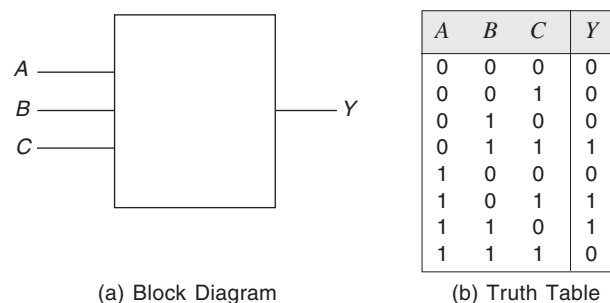

Fig. 6.1
6.4 How will you implement a specified network using logic gates? The block diagram and truth table of the network are given in Fig. 6.1.